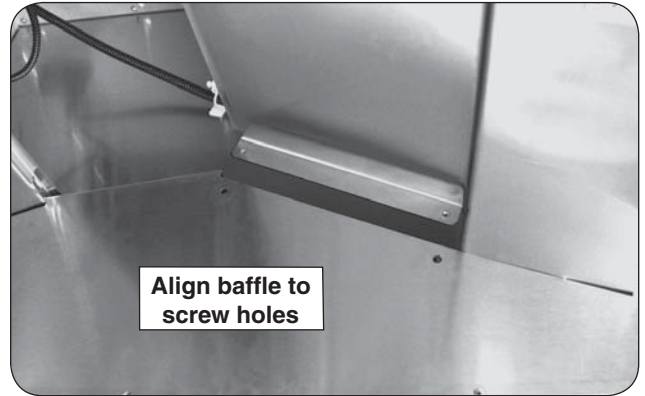

Fig. 17-1 Align baffle
1. Carefully raise the baffle up into the vent hood. You will first need to slide one side in at a slight angle, until the baffle edge aligns above the inner wall (see Fig. 17-1). Then raise the opposite side of the baffle until it also aligns. Drop the baffle into place.